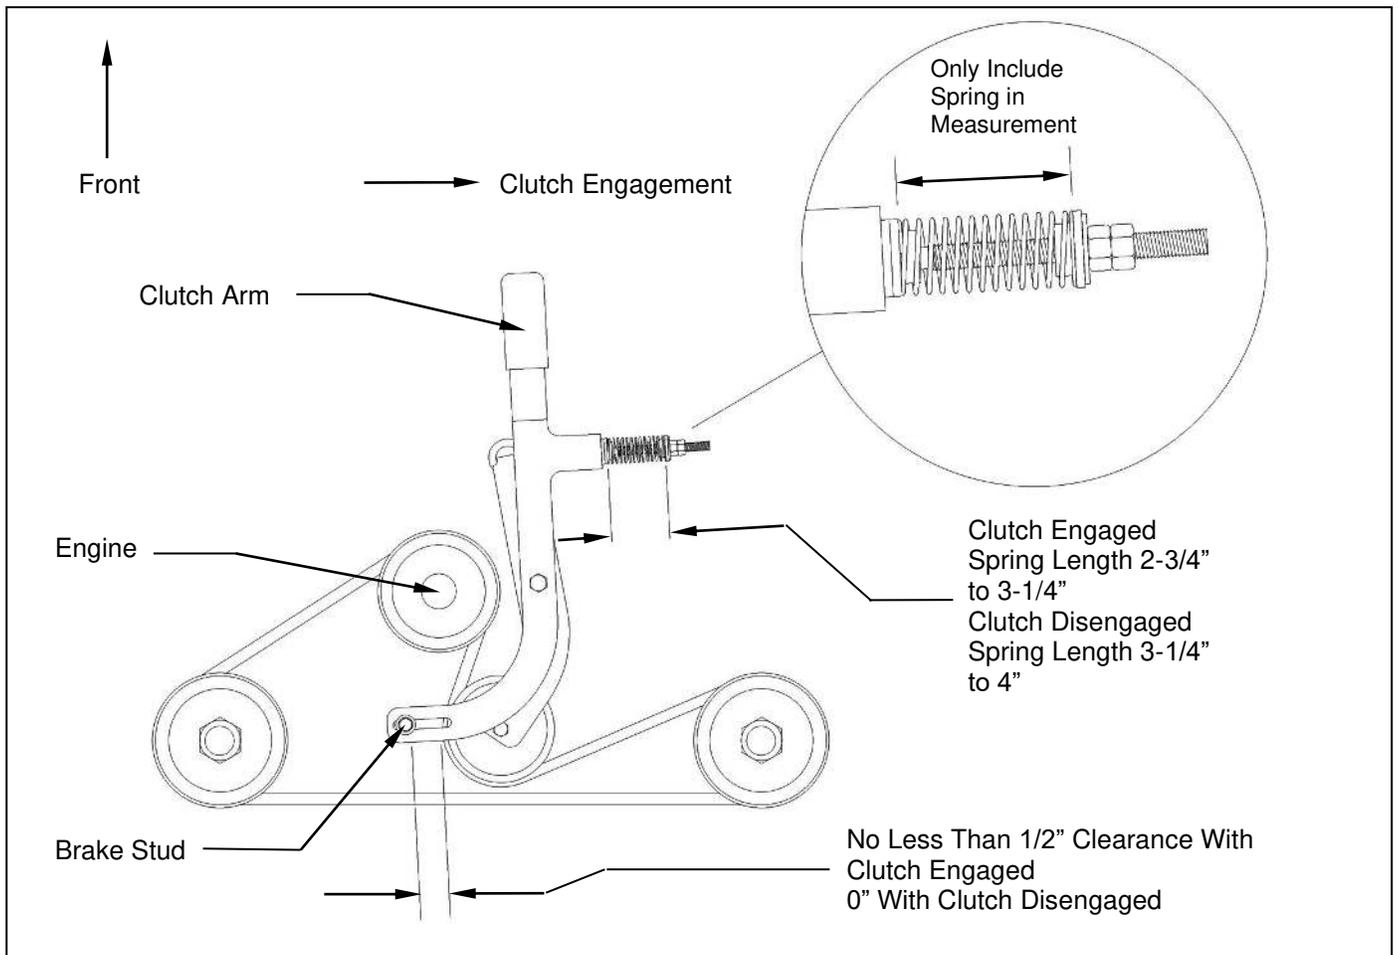

Figure 10: Belt Pattern, Spring Adjustment, and Brake Adjustment
A. DRIVE BELT REMOVAL AND TENSION – Refer to Figure 10
Install the new belt and then adjust the tension as follows: **See Figure 10.** Take special care to make sure that the belt is placed between the brake stud and the idler pulley.